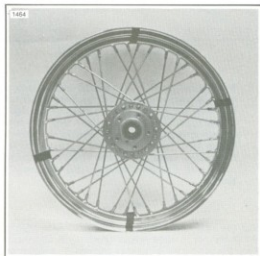

Figure 2-23. Marking Spoke Groups
- See Figure 2-23. Divide the wheel spokes into 4 groups of 4 and mark the center of each group with a piece of tape. The groups should be directly across from one another and approximately 90° apart. Tighten the spokes in these four groups finger tight, leaving all others loose.